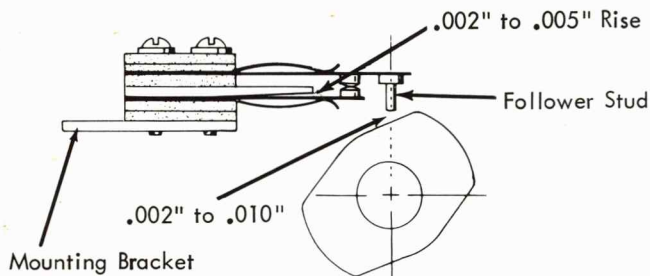

FIGURE 40. C-7 Contact
7. Shift Contact Assembly C-7 (Fig. 40) -
- a. C-7 Contact Rise - Form the N/C contact support so that the O/P lifts the N/C contact strap .002" to .005" (Fig. 40).